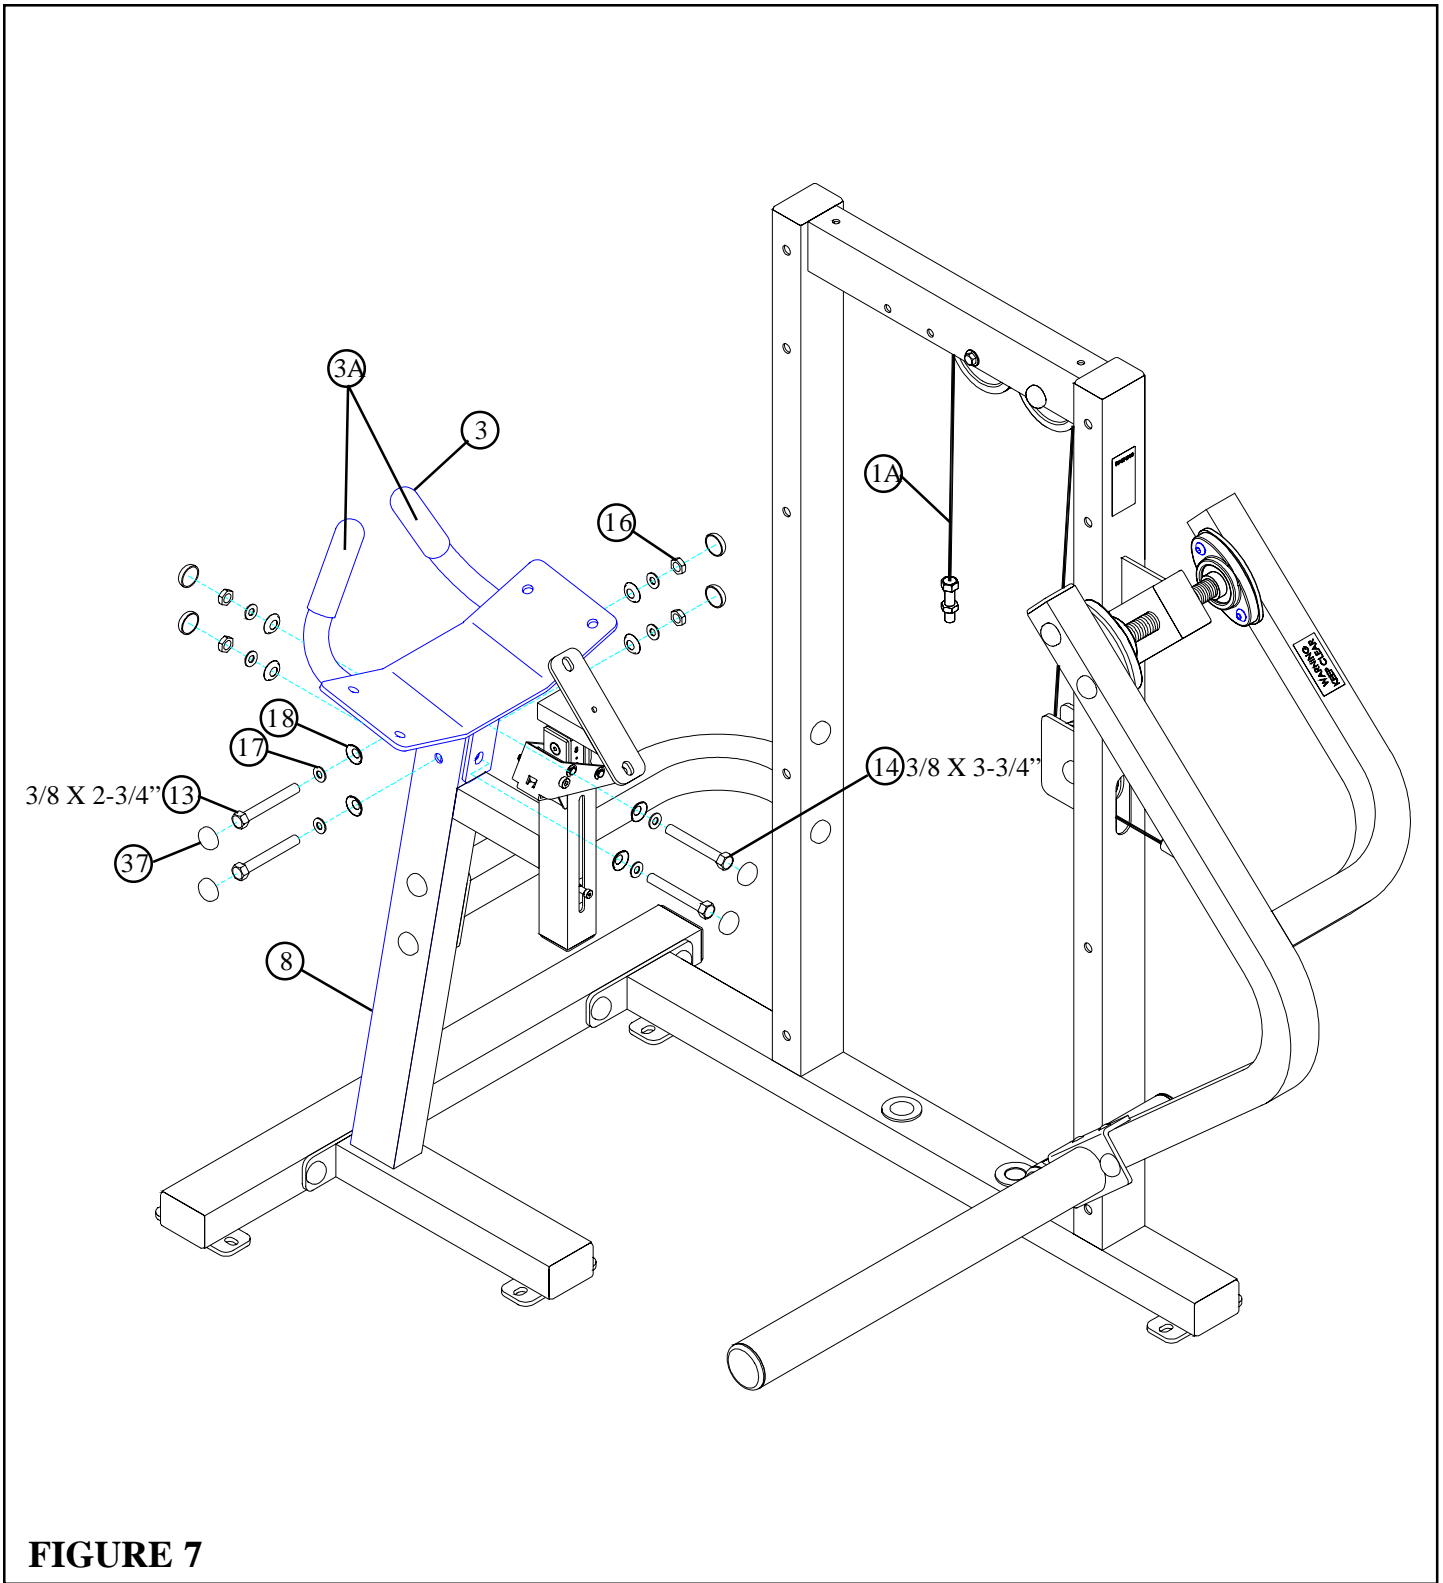

FIGURE 7
- **SECURELY** assemble the HANDLE (3) to the SEAT FRAME (8) using two 3/8 X 2-3/4" BOLTS (13), two 3/8 X 3-3/4" BOLTS (14), eight 3/8" SAE WASHERS (17), eight RH WASHERS (18), four 3/8" LOW HEIGHT LOCK NUTS (16) and eight RH CAPS (37) as shown in FIGURE 7